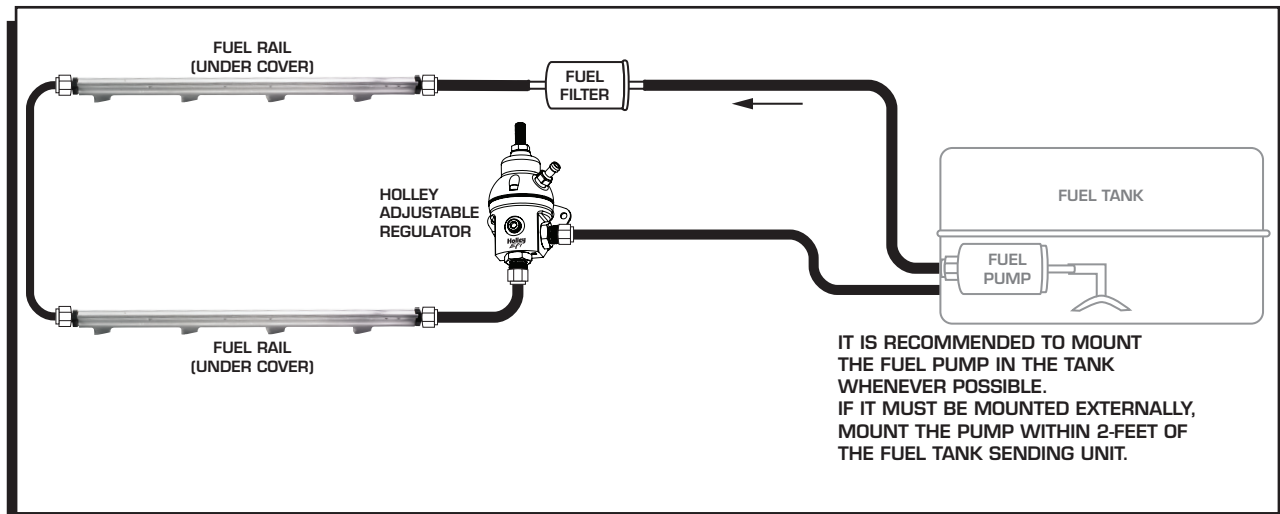
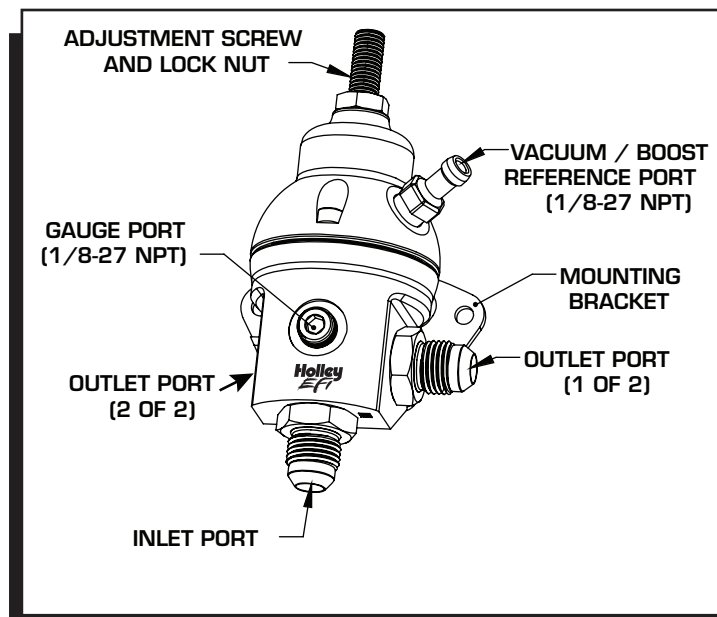

Figure 3 EFI Return Fuel System.
Figure 5 Regulator Feature Identification Guide
When installing the kit in conjunction with an EFI return system, refer to Figure 3. There are two possible connection points (one at the rear of each fuel rail assembly). One rail will be connected to the fuel supply in an operational system. DO NOT "tee" into the supply line and leave the opposing fuel rail plugged or capped (Figure 5). Fuel from the opposing rail should be routed to the regulator inlet port (using the supplied hose and fittings). The hose length between the rail and regulator is not critical, but should be kept to a minimum.
The regulator inlet port is located on the bottom surface, and clearly marked with an identifier machined in the housing (see Figure 5). Two (2) outlet ports are available, but typically only one (1) will be used. Install the supplied -6AN port plug in the unused outlet port using a 5/16-inch hex key (Allen wrench). The -6AN straight port fittings should be snugged with an 11/16-inch wrench or deep socket.
Install the supplied 1/8-27 NPT brass hose barb fitting in the upper regulator housing (see Figure 5) using a 7/16-inch wrench or deep socket. Thread sealer is not required on this fitting, but can be used if desired. Connect an intake manifold vacuum / boost source to this fitting, or leave it open to the atmosphere if manifold pressure compensation is not required. DO NOT plug this opening. Ensure that contaminants (such as water and road spray) cannot enter the open fitting. In the event that vacuum / boost reference is